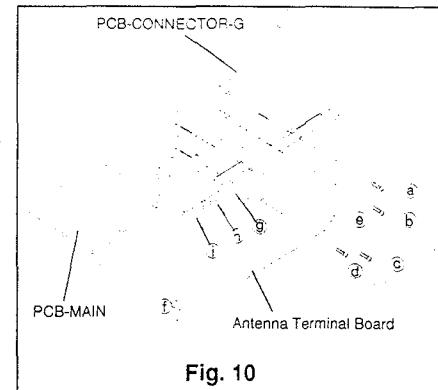

Fig. 10
- (2) Remove four screws (ⓐ, ⓑ, ⓒ and ⓔ), unfasten five catches (ⓐ~ ⓘ) on the Antenna Terminal Board as shown in Fig.10, and remove the Antenna Terminal Board.
- (3) Raise the PCB-CONNECTOR-G upward to remove it.